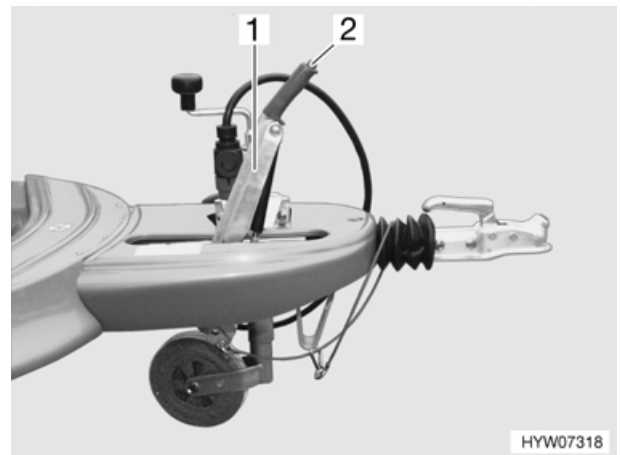

Fig. 7 Handbrake
- Apply the handbrake (Fig. 7,1) when parking the caravan. It locks automatically in place.
- In order to release it, press the securing button (Fig. 7,2) and lower the handbrake.